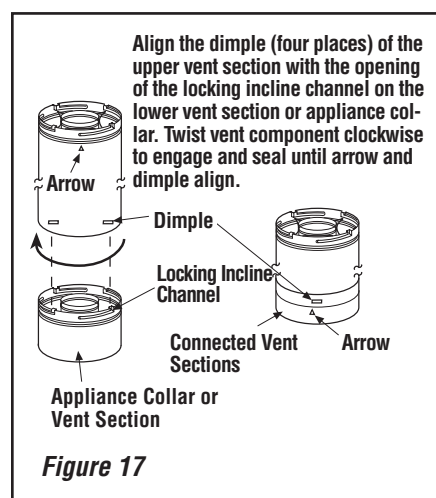

Figure 17
B. Attach vent components to appliance—Secure Vent® SV8 direct-vent system components are unitized concentric pipe components featuring positive twist lock connections (see **Figure 17**).
To attach a vent component to the appliance collar, align the dimpled end over the collar, adjusting the radial alignment until the four locking dimples are aligned with the inlet of the four inclined channels on the collar (refer to **Figure 17**). Push the vent component against the collar until it fully engages, then twist the component clockwise, running the dimples down and along the incline channels until they seat at the end of the channels. The unitized design of the **Secure Vent** components will engage and seal both the inner and outer pipe without the need for sealant or screws. If desired a #6 x 1/2" screw may be used at the joint, but it is not required as the pipe will securely lock when twisted.
Push the vent component against the previous section until it fully engages, then twist the component clockwise running the dimples down and along the incline channels until they seat at the end of the channels. **This seating position is indicated by the alignment of the arrow and dimple as shown in Figure 17.**
F. Change vent direction to horizontal/inclined run—At transition from or to a horizontal/inclined run, install the SV8 E45 and SV8 E90 elbows in the same manner as the straight vent sections. The elbows feature a twist section to allow them to be routed about the center axis of their initial collar section to align with the required direction of the next vent run element. **Twist elbow sections in a clockwise direction only so as to avoid the possibility of unlocking any of the previously connected vent sections.** See **Figure 17** on **Page 14** and **Figure 19**.
Secure Vent SV8 direct-vent system components are unitized concentric pipe components featuring positive twist lock connection, (refer to **Figure 17 on Page 14**). All of the appliances covered in this document are fitted with collars having locking inclined channels. The dimpled end of the vent components fit over the appliance collar to create the positive twist lock connection.
C. Frame ceiling opening—If the vertical route is to penetrate a ceiling, use plumb line to locate the center above the appliance. Cut and/or frame an opening, 13" x 13" (330 mm x 330 mm) inside dimensions, about this center (refer to **Figure 17 on Page 14**).
Other vent sections may be added to the previously installed section in accordance with the requirements of the vent tables. To add another vent component to a length of vent run, align the dimpled end of the component over the inclined channel end of the previously installed section, adjusting the radial alignment until the four locking dimples are aligned with the inlets of the four incline channels of the previous section. Push the vent component against the previous section until it fully engages, then twist the component clockwise running the dimples down and along the incline channels until they seat at the end of the channels. **This seating position is indicated by the alignment of the arrow and dimple as shown in Figure 17 on Page 14.**
H. Change vent direction—At transition from or to a horizontal/inclined run, install the SV8E45 and SV8E90 elbows in the same manner as the straight vent sections. The elbows feature a twist section to allow them to be routed about the center axis of their initial collar section to align with the required direction of the next vent run element. **Twist elbow sections in a clockwise direction only so as to avoid the possibility of unlocking any of the previously connected vent sections (see Figure 17 on Page 14).**